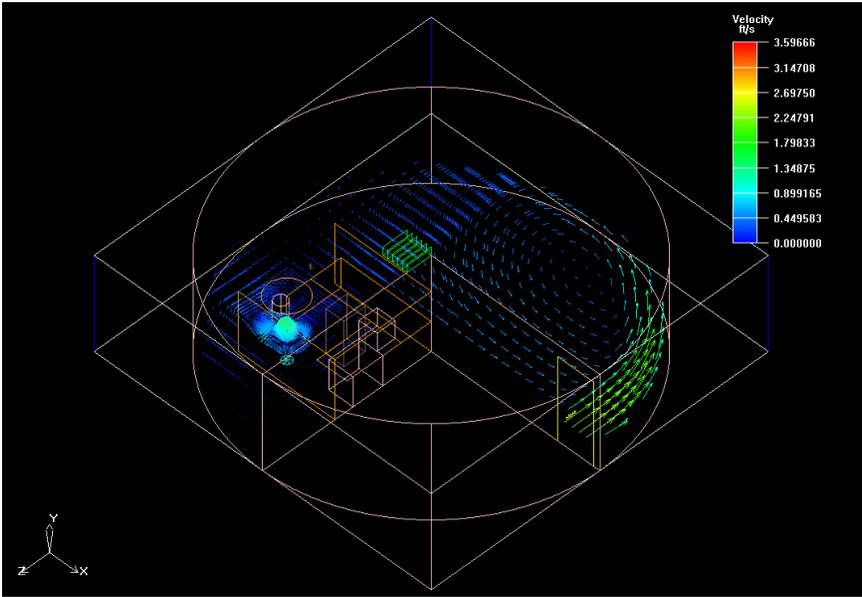

Figure 4.21: Velocity Vectors in an  $x-z$  Cross-Section
*In Figure 4.21, you can see the flow distribution of air at a range of velocities throughout the room.*